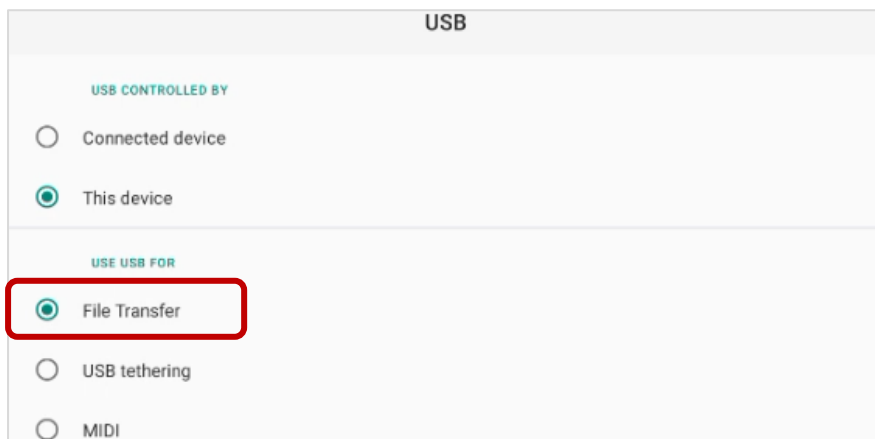

Figure 58
4. Select **File Transfer** (Figure 58) and leave the **USB settings** menu.